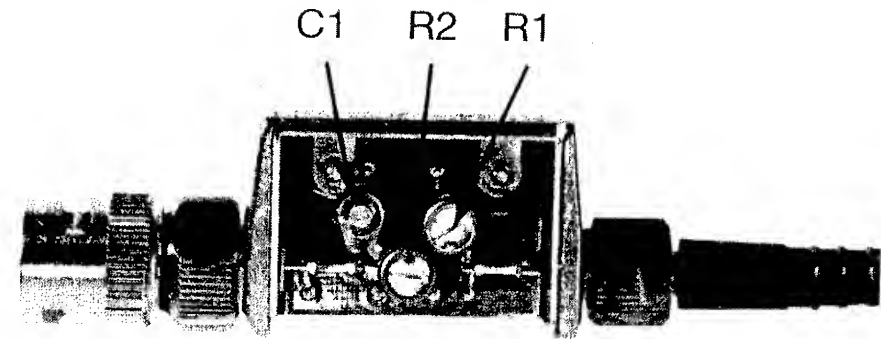

Figure 7. High-frequency Compensation Adjustment Locations
10. Slide off probe chassis assembly cover to expose adjustments. Refer to figure 7 for adjustment locations.